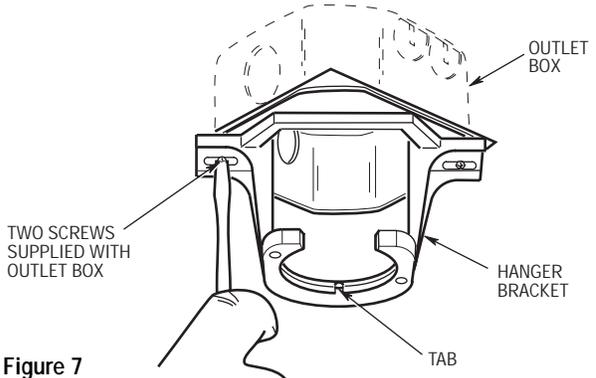
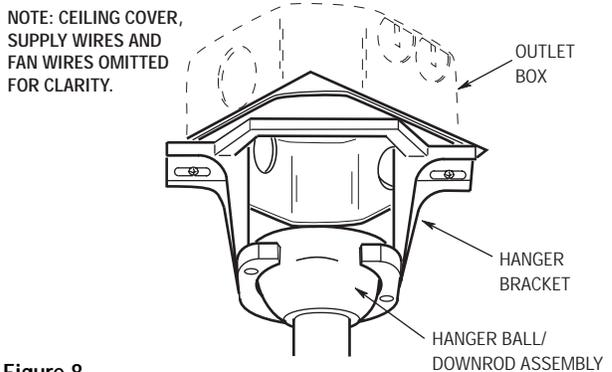

Figure 7
Figure 8
- 9. Securely attach the hanger bracket to the outlet box using the two screws supplied with the outlet box. (Figure 7.)
- 10. Carefully lift the fan and seat the hanger ball/downrod assembly on the hanger bracket that was just attached to the outlet box (Figure 8). Be sure the groove in the ball is lined up with tab on the hanger bracket (Figure 7).